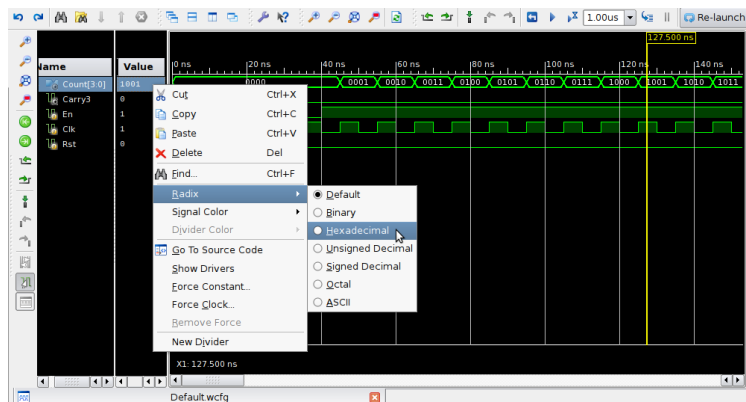

Figure 8: Change Radix to Hexadecimal
- From within the waveform window, right-click on “Count” and select *Radix* → *Hexadecimal* to change the display format of the “Count” bus to hexadecimal. See Figure 8.